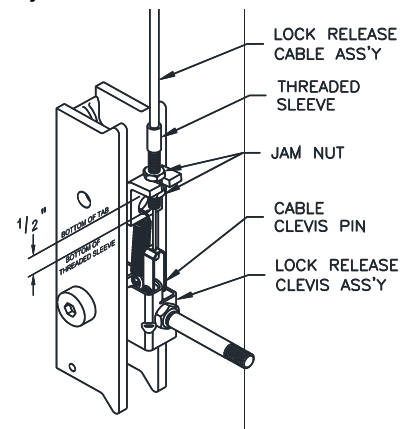

Fig. 15 – Power Column Lock Assembly
- 33) Attach mechanical lock release cable assembly to power column lock release clevis using the 3/16" diameter x 1/2" long pin and (2) "C" clip retainers, **Fig. 15**.
- 34) Insert threaded sleeve portion of cable assembly in slot located on tab above locking pawl, **Fig. 15**. One jam nut should be located on each side of tab. Position threaded sleeve with 1/2" of thread below tab as indicated in **Fig. 15** and tighten jam nuts.
- 37) Insert threaded sleeve portion of cable assembly in slot located on tab below lock pawl, **Fig. 15**. With one jam nut located on each side of tab, adjust the threaded sleeve to begin to pull tension on the 1/2" O.D. spring. Snug jam nuts by hand.